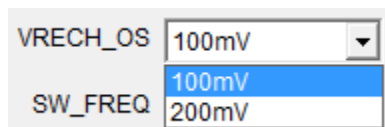

Figure 13: Auto-Recharge Battery Voltage Threshold Configuration
11. Set the auto-recharge battery voltage threshold (see Figure 13).